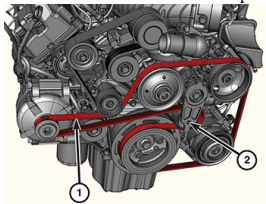
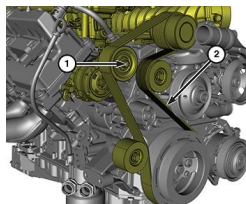

Fig 2: Accessory Belt Routing
Fig 3: Supercharger Belt Routing
7. Take note of the under-hood belt routing diagram. If missing, refer to Figures 2 & 3.
- a. Remove the main accessory belt (Fig 2) and the supercharger belt (Fig 3).
46. Install the supercharger belt. Note belt routing in Fig 3. Ensure the new belt is used that was included with the HellRaiser decoupler kit (alternate belts – Kevlar, aramid, etc. – are not compatible).
47. Install the main accessory belt. Note belt routing in Fig 2. **Check and ensure that belt ribs are properly seated in all the pulley grooves.**